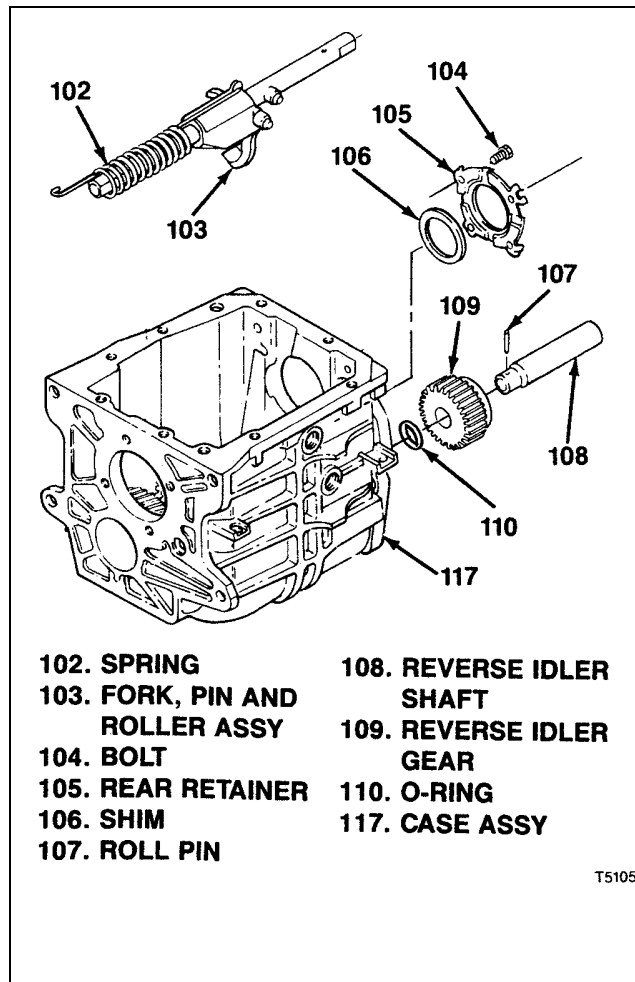

Figure 3-12. T5 WC Reverse Fork and Idler Gear
**3-18. REMOVAL OF T5 WC REVERSE FORK AND IDLER GEAR** (see figure 3-12).
- a. Unhook and remove spring (102) and fork pin and roller assembly (103).
- b. Bend down tabs on rear retainer (105) and remove bolts (104) and retainer. Remove shim(s) (106).
- c. Drive out roll pin (107) holding reverse idler shaft (108) in transmission case (117).
- d. Push reverse idler shaft (108) out rear of transmission case (117).
- e. Remove roll pin (107), reverse idler gear assembly (109) and o-ring (110) from transmission case (117).